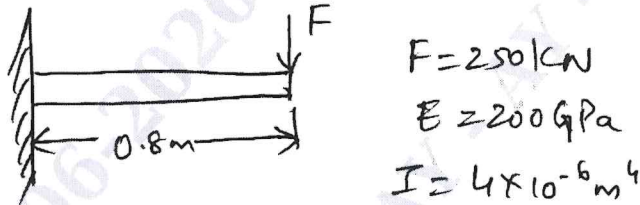

Fig. Q5 (b)
b. Find the deflection at the free end and the support reaction of a cantilever beam shown in Fig. Q5 (b). (10 Marks)